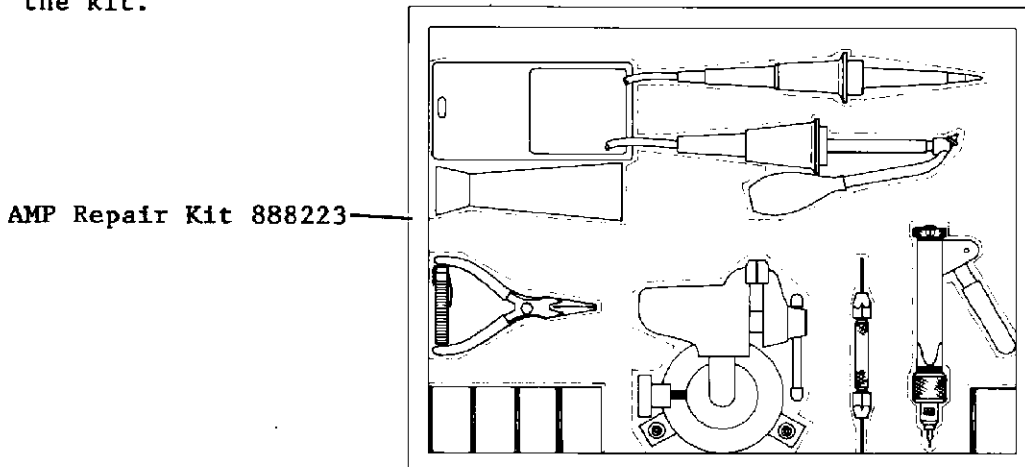

Fig. 12. Repair Kit for Right-Angle Receptacle Contacts
4.9. Damaged individual solder contacts in receptacle assemblies can be removed and replaced using AMP Repair Kit 888223 (see Is 6921). Figure 12 illustrates the kit.